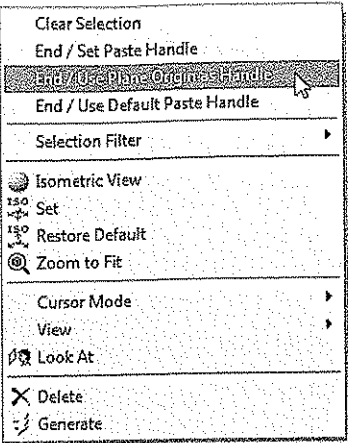
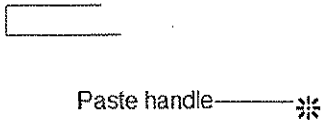
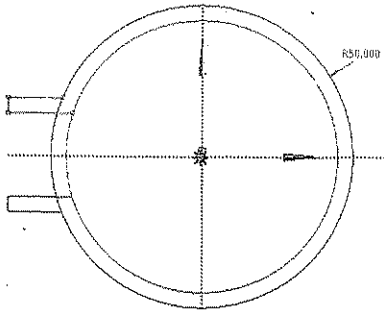

Figure 3-91 The shortcut menu displayed while the **Replicate** tool is active
Figure 3-92 Preview of the entities to be replicated and the paste handle
Figure 3-93 Specifying the location of paste handle
26. Select the three entities of the polyline created in the previous steps and right-click in the **Graphics** window; a shortcut menu is displayed, as shown in Figure 3-91.
27. Choose the **End / Use Plane Origin as Handle** option from the shortcut menu, refer to Figure 3-91; the preview of the entities to be replicated along with the paste handle is displayed, refer to Figure 3-92.
28. Next, select the origin; you are prompted to specify the location to paste the entities, as shown in Figure 3-93.
29. Right-click in the **Graphics** window and choose the **Flip Vertical** option from the shortcut menu displayed, refer to Figure 3-92; the preview of the flipped entity is displayed, as shown in Figure 3-93 displayed.